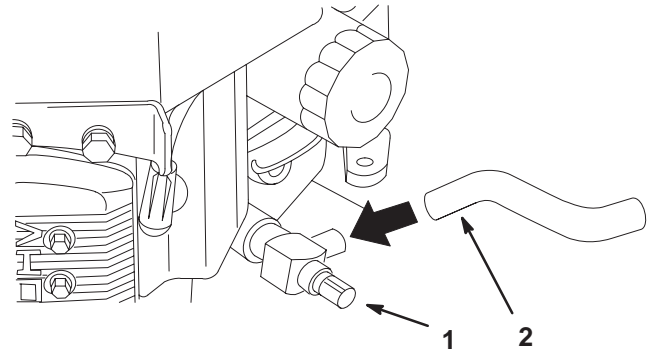

Figure 32
- Rotate oil drain valve to allow oil to drain (Fig. 32).
- Remove the drain hose (Fig. 32).